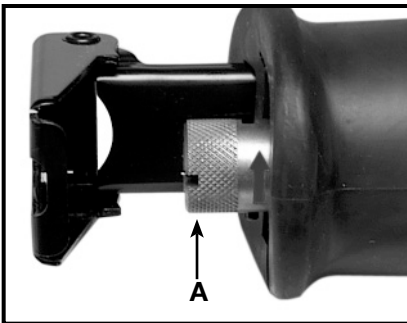

Fig. 1
1. The reciprocating shaft must be fully extended to permit access to the *Quik-Change*[™] blade release collar (A) Fig. 1. If necessary, gently squeeze the trigger switch to move the reciprocating shaft to its outermost position (as shown in Fig. 1).